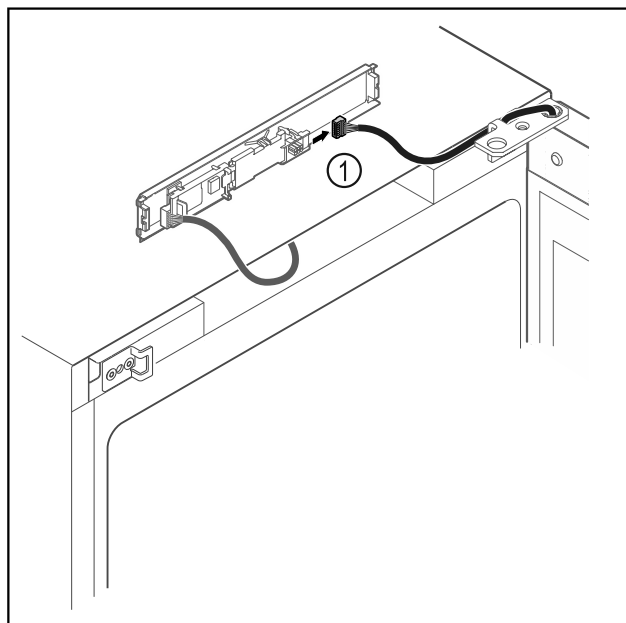

Fig. 6
- Disconnect the plug Fig. 6 (1) from the circuit board.